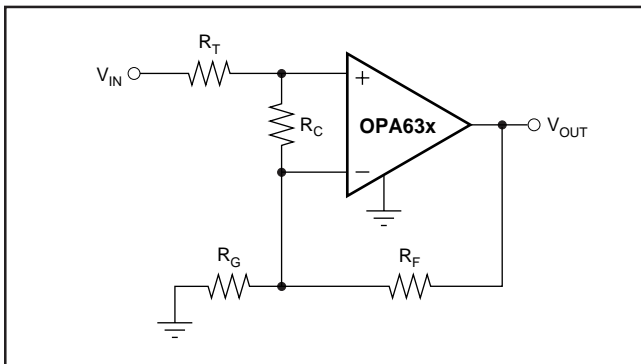

FIGURE 4. Compensated Non-Inverting Amplifier.
Figure 4 shows a non-inverting amplifier that reduces peaking at low gains. The resistor R_C compensates the OPA634 or OPA635 to have higher Noise Gain (NG), which reduces the AC response peaking (typically 5dB at $G = +1$ without R_C) without changing the DC gain. V_{IN} needs to be a low impedance source, such as an op amp. The resistor values are low to reduce noise. Using both R_T and R_F helps minimize the impact of parasitic impedances.
Since the OPA634 and OPA635 are voltage feedback op amps, a wide range of resistor values may be used for the feedback and gain setting resistors. The primary limits on these values are set by dynamic range (noise and distortion) and parasitic capacitance considerations. For a non-inverting unity gain follower application, the feedback connection should be made with a 25Ω resistor, not a direct short (see Figure 4). This will isolate the inverting input capacitance from the output pin and improve the frequency response flatness. Usually, for $G > 1$ application, the feedback resistor value should be between 200Ω and $1.5k\Omega$. Below 200Ω , the feedback network will present additional output loading which can degrade the harmonic distortion performance. Above $1.5k\Omega$, the typical parasitic capacitance (approximately $0.2pF$) across the feedback resistor may cause unintentional band-limiting in the amplifier response.
Resistors should be a very low reactance type. Surface-mount resistors work best and allow a tighter overall layout. Metal film or carbon composition axially-leaded resistors can also provide good high frequency performance. Again, keep their leads and PC board traces as short as possible. Never use wirewound type resistors in a high frequency application. Since the output pin and inverting input pin are the most sensitive to parasitic capacitance, always position the feedback and series output resistor, if any, as close as possible to the output pin. Other network components, such as non-inverting input termination resistors, should also be placed close to the package. Where double-side component mounting is allowed, place the feedback resistor directly under the package on the other side of the board between the output and inverting input pins. Even with a low parasitic capacitance shunting the external resistors, excessively high resistor values can create significant time constants that can degrade performance. Good axial metal film or surface-mount resistors have approximately 0.2pF in shunt with the resistor. For resistor values >1.5kΩ, this parasitic capacitance can add a pole and/or zero below 500MHz that can effect circuit operation. Keep resistor values as low as possible consistent with load driving considerations. The 750Ω feedback used in the typical performance specifications is a good starting point for design. See Figure 4 for the unity gain follower application.